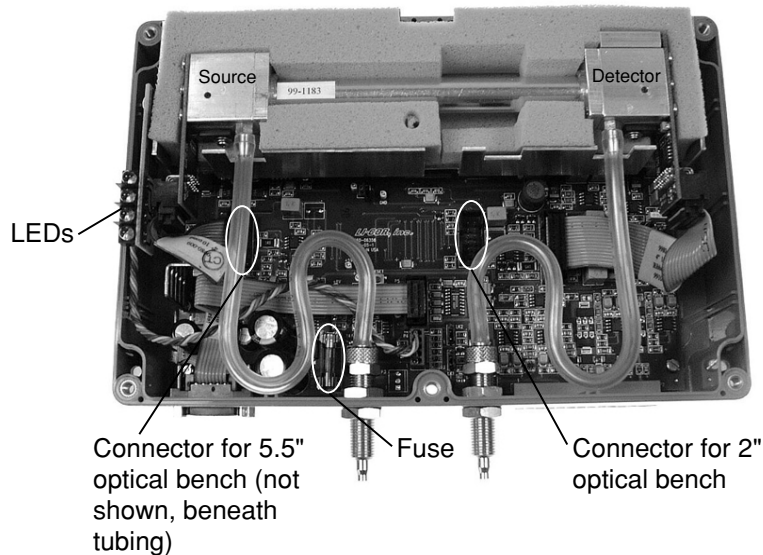

Figure 5-1. Location of 10-pin connectors for 5.5" and 2" optical benches.
3. There are ribbon cables (Figure 5-1 below) connected to the circuit boards on the source and detector housings. Pull straight out on the connector that is attached to each ribbon cable. The optical bench can now be removed from the foam casing.
To check the fuse, remove the six screws on the top of the LI-820. The fuse is located on the main circuit board, near the Flow In port, as shown in Figure 5-1. Replacement fuses (part #439-04537, in the spares kit) plug into the fuse holder; no soldering is required. Replace the fuse and reassemble the LI-820 case.